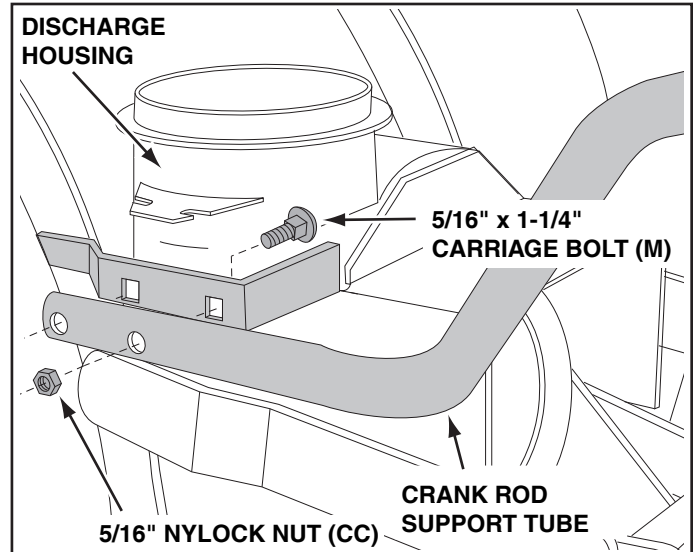

FIGURE 49 LEFT SIDE VIEW
STEP 50: (SEE FIGURE 49)
- Assemble the crank rod support tube to the bracket on the left side of the discharge housing using two 5/16" x 1-1/4" carriage bolts (M), and 5/16" Nylock nuts (CC).